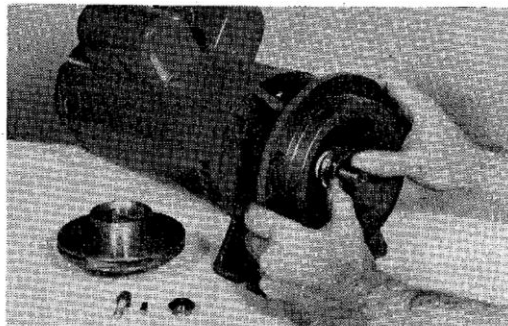

FIG. 8
- Install rotating element of seal on shaft (Fig. 8), be sure the lapped sealing surface is toward seal seat, and assemble impeller. Check diameter of impeller against motor horsepower rating to insure proper performance (Fig. 5).